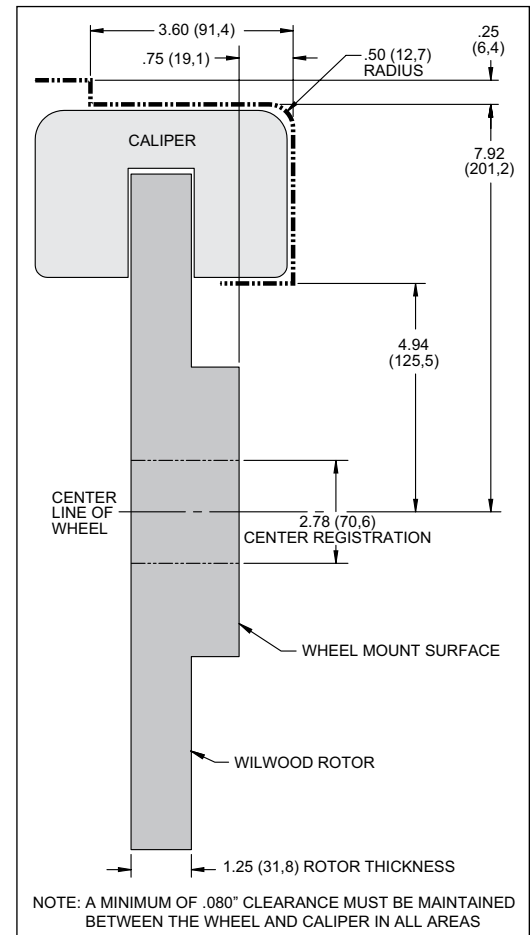

Figure 2. Wheel Clearance Diagram
- Review the wheel clearance diagram (Figure 2, page 3) to verify that there is adequate clearance with the wheels you will be using with the installation.
- Verify your wheel clearance using figure 2.